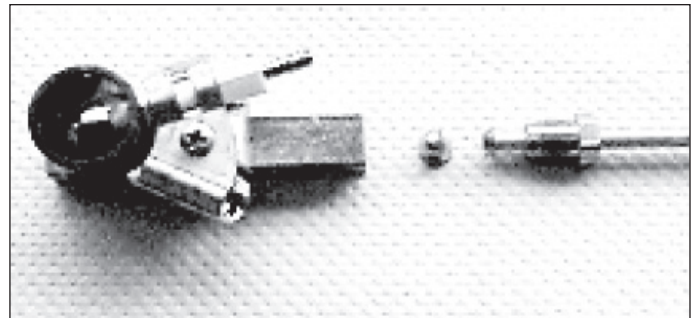

Figure 5-26.
5. Is the burner or burner jet dirty? Clean burner jet using liquid and compressed air- no mechanical cleaning. (See Figure 5-26)